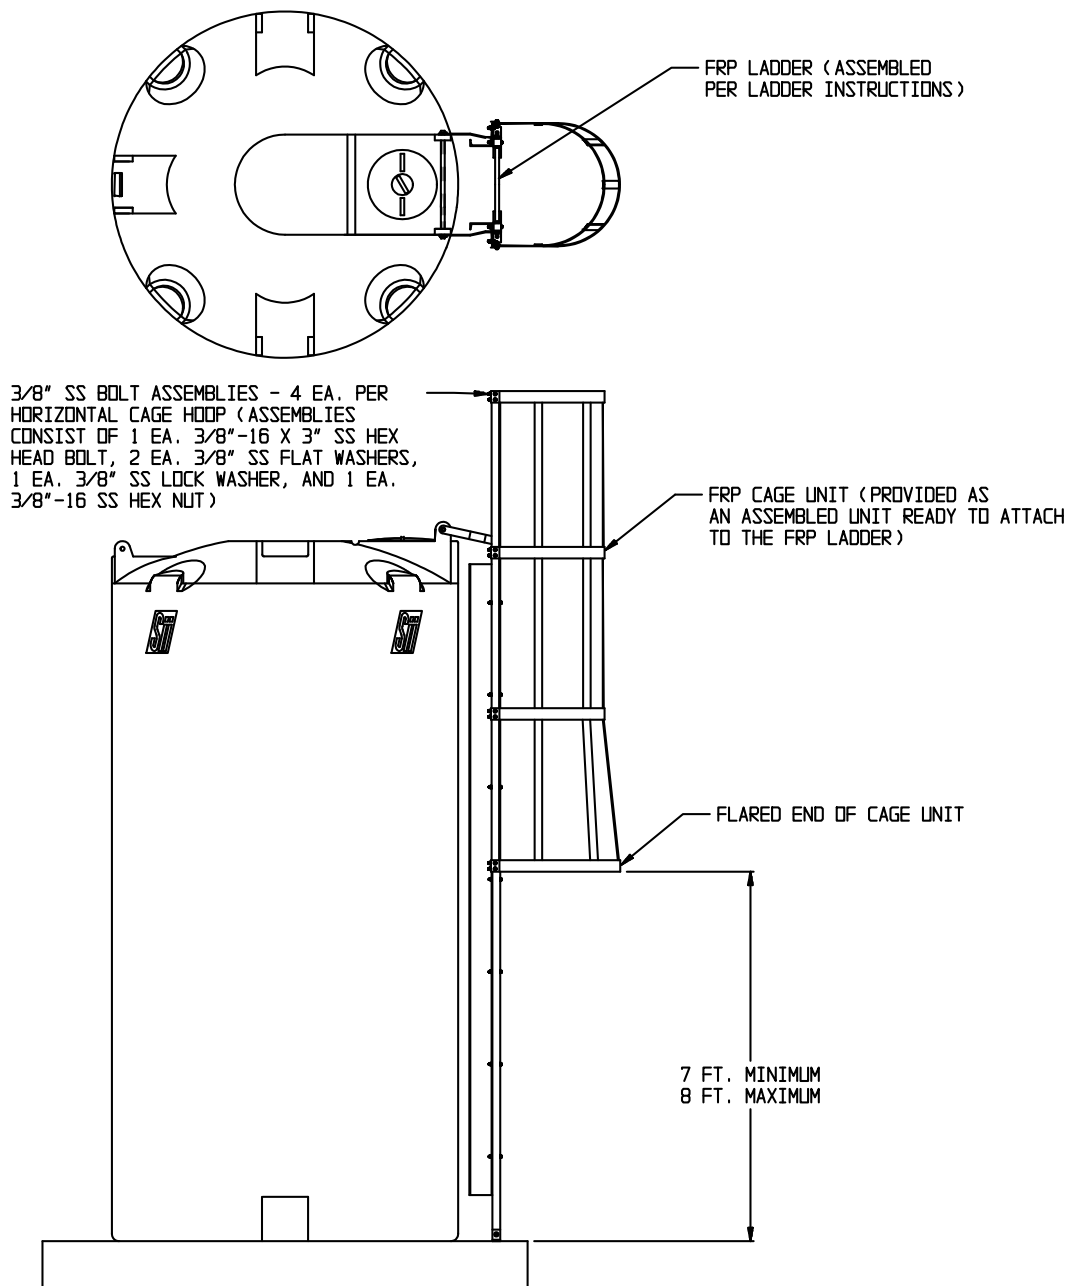

Figure 8.7
8.7.1 Using the assembly drawing shown in Figure 8.7 and the instructions in section 8.7.2, verify that the correct number of fasteners have been shipped to attach the FRP cage unit. These cages are designed for use only with the SII FRP ladder design. Cages are required for ladders used to ascend to heights exceeding 20 ft.